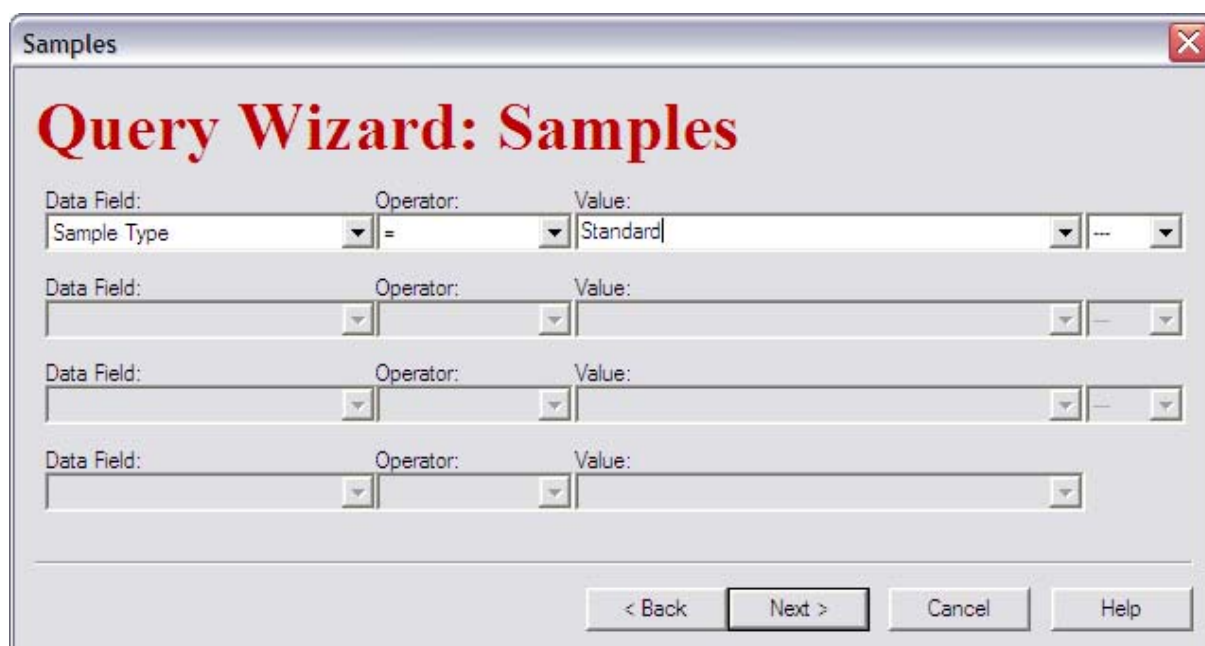

FIGURE 3-27: Sample criteria in the **Query Wizard**.
3. The sample type can be specified in FIGURE 3-27, depending on how the samples of interest are specified in the sequence. Other sample parameters e.g., sample injection time can also be used as a query criteria.